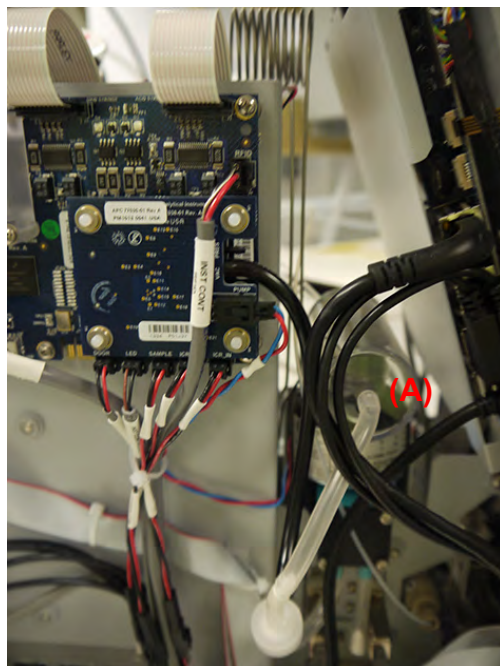

Figure 61: Electronics Side of Analyzer
4. Disconnect the tubing from the back of the degasser (A), (Figure 61).
8. Reconnect the tubing to the back of the degasser (**A**), (Figure 61].